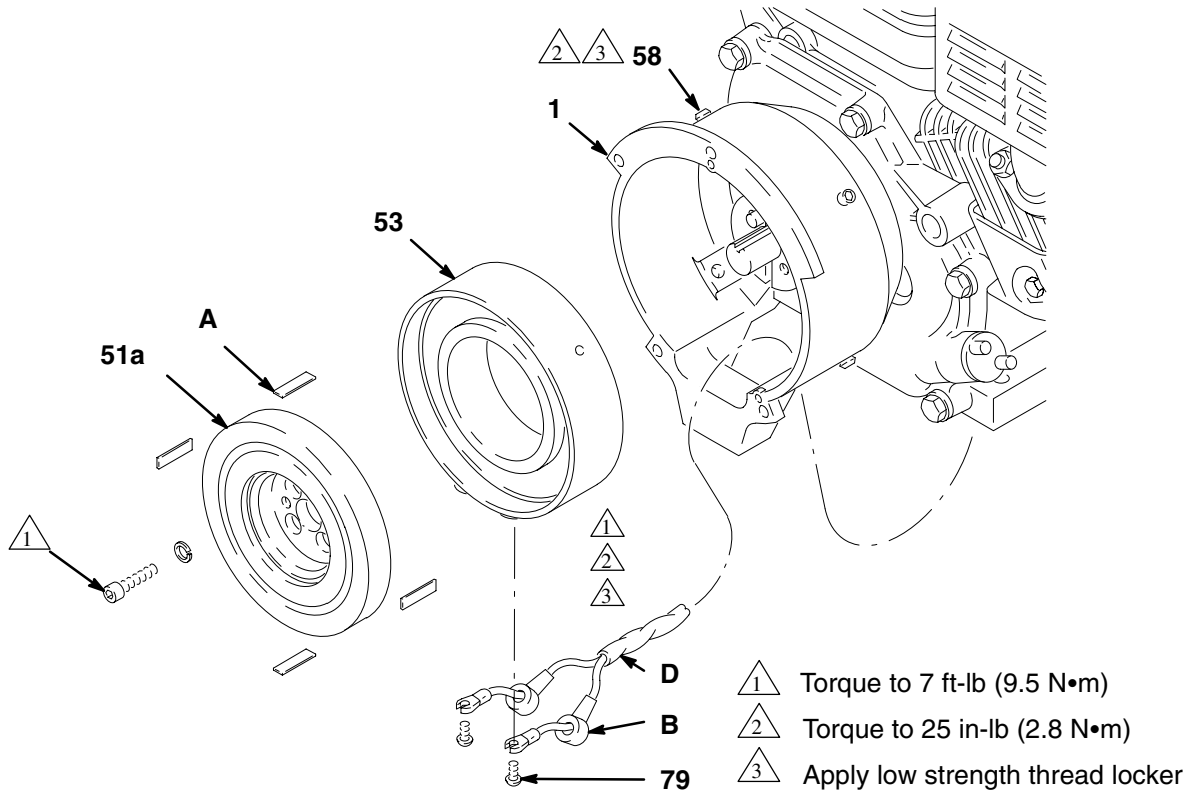

Fig. 1
2. Back out the four set screws (58) holding the field (53) to the clutch housing (1) approximately 3 turns.
3. Pull out the field (53). The field fits closely to the clutch housing and must be removed carefully to prevent jamming.
4. Pull the plastic caps (B) off the wire screws (79) in both places on the field. Remove the screws and remove the harness (D).
5. Fig. 1. Connect the correct color wires of the harness (D) with the correct screws (79) in both places on the new field. Pull the plastic caps (B) up and snap them over the screws. Install the field in the clutch housing. Align the set screw holes in the field and the clutch housing (1). Hand tighten the set screws (58) oppositely and evenly.
6. Install the rotor (51a). Set the clearance between the outside diameter of the rotor and the inside diameter of the field with the four 0.006 in. (0.15 mm) gages (A), supplied. Place the gages 90° apart.
7. Adjust the position of the field with the four set screws (58) to maintain 0.006 in. (0.15 mm) minimum clearance all the way around the rotor.
8. Tighten the four set screws (58), evenly, to 25 in-lb (2.8 N•m). Remove the four gages.
9. Pull the engine recoil rope to assure that the engine turns freely, and there is no contact between the rotor (51a) and the field (53). If there is contact, loosen the set screws and reposition the field.